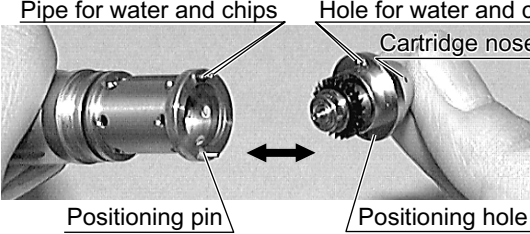

Fig.15
- (3) When mounting a new cartridge, align the position of the pipe for water and chips, and the positioning pin with the hole of the nose hood of the cartridge and push in straight. (Fig.15)